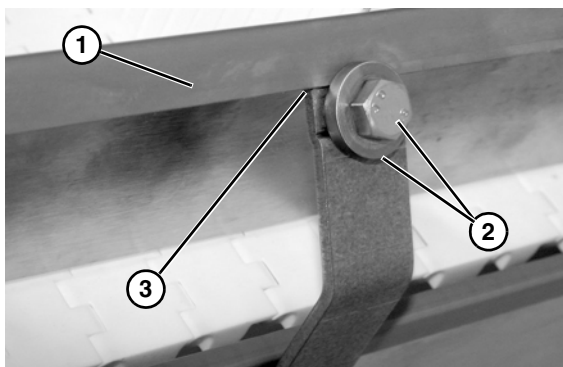

Figure 27
3. Attach guide (**Figure 27, item 1**) to the mounting brackets with hex bolts and spacers (**Figure 27, item 2**). Hand tighten only at this time.
4. Ensure that nose of bracket slips under the lip of guide (**Figure 27, item 3**).